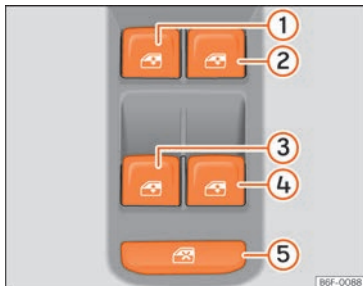

Fig. 65 Detail of the driver door: controls for the windows.
The safety control »» Fig. 65 ⑤ on the driver door can be used to disable the electric window buttons on the rear doors.